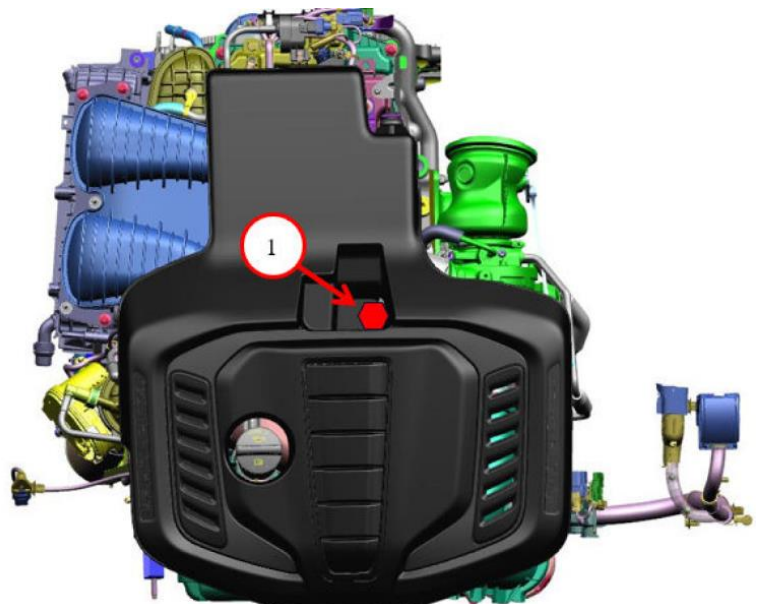

Figure 2 – Bolted Engine Cover Fastener Location
3. Remove the bolted engine cover fastener (Figure 2).
13. Install and tighten the bolted engine cover fastener to 5.5N·m (49In. Lbs.) (Figure 2).